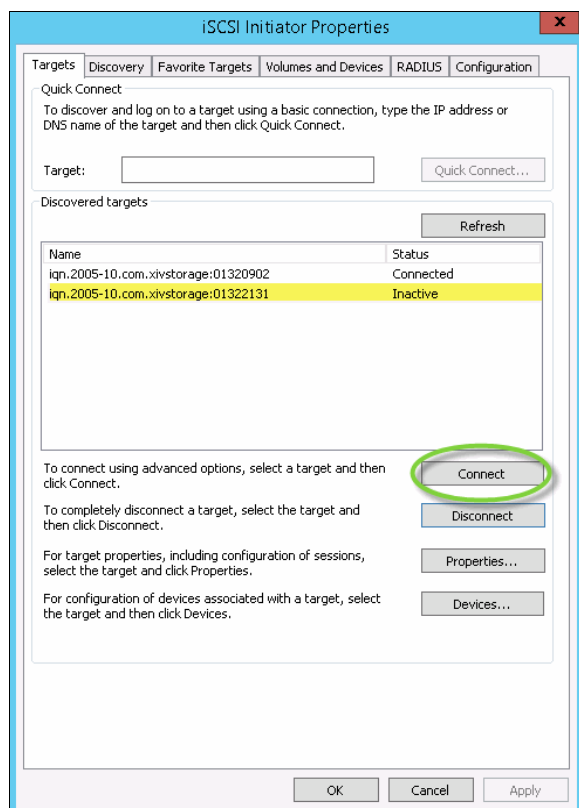

Figure 3-15 A discovered XIV Storage with Inactive status
6. The storage system is discovered by the initiator and displayed in the Targets tab (see Figure 3-15). At this stage, the Target shows as *Inactive*.